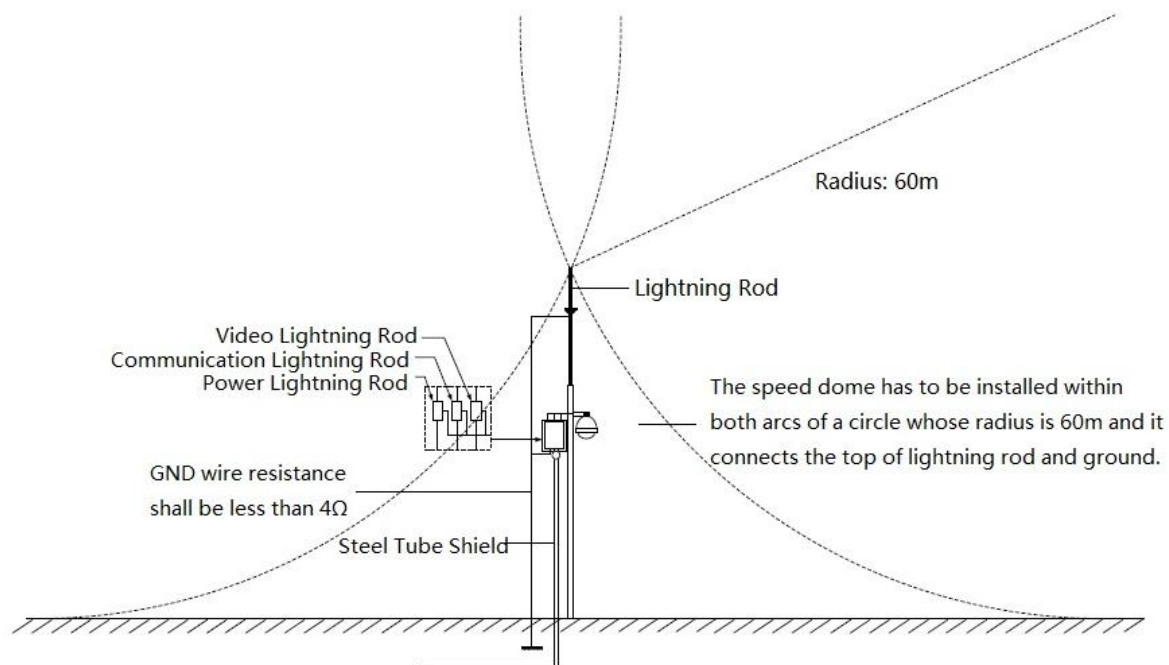

Figure 4-1
- System shall adopt equal-potential wiring. The earth device shall meet anti-jamming and at the same time conforms to your local electrical safety code. The earth device shall not short circuit to N (neutral) line of high voltage power grid or mixed with other wires. When connect the system to the earth alone, the earth resistance shall not be more than 4Ω and earth cable cross-sectional area shall be no less than 25 mm^2 . See Figure 4-1